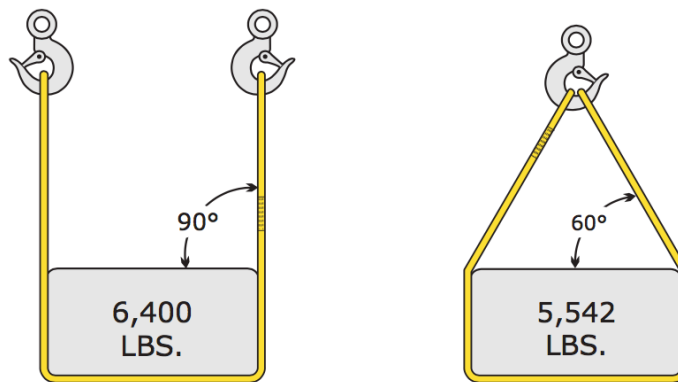

Figure 4-1
3. Multiply the sling capacity by the loss factor to determine the actual sling capacity at the given angle of lift. The result is the reduced sling capacity. (See Figure 4-1).
EXAMPLE: A one (1) inch, class 7, Type V endless web sling, rated at 6,400 lbs. in a vertical basket hitch rating, is being used in a basket hitch at a 60 degree angle. What is its lifting capacity at this lifting angle? (See Figure 4-1).